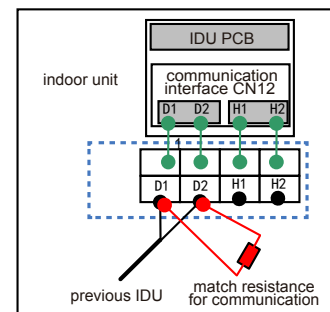

Fig. 5.3.2
- (4) Secure the communication cable with clamp of electric box.
- (5) For more reliable communication, make sure connect the terminal resistor to the most downstream IDU of the communication bus (terminal D1 and D2), as shown in Fig. 5.3.2, terminal resistor is provided with each ODU.